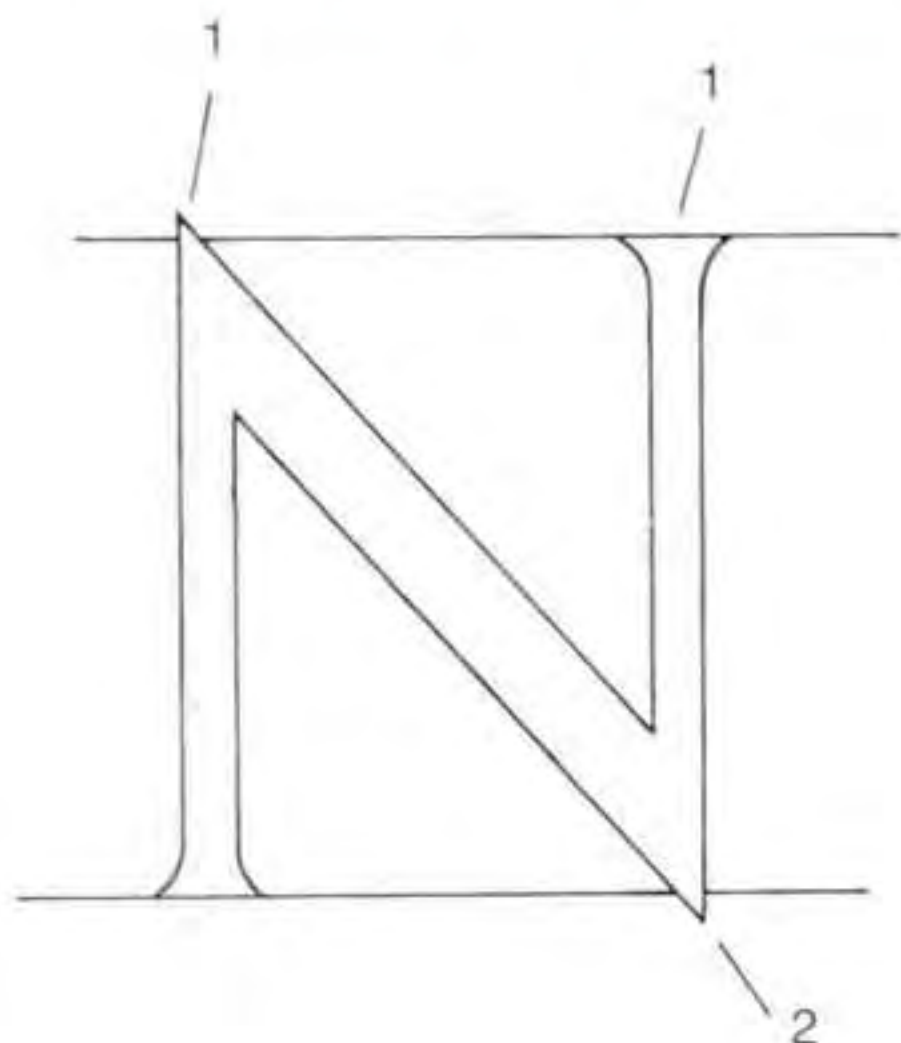

Fig 6.15 Features of the letter N.
(See Fig 6.15). According to the rules, all the parts of this letter should be thick, but as this looks heavy and dull, the uprights are, exceptionally, thin, and the two serifs on each leg should be made distinct (1).